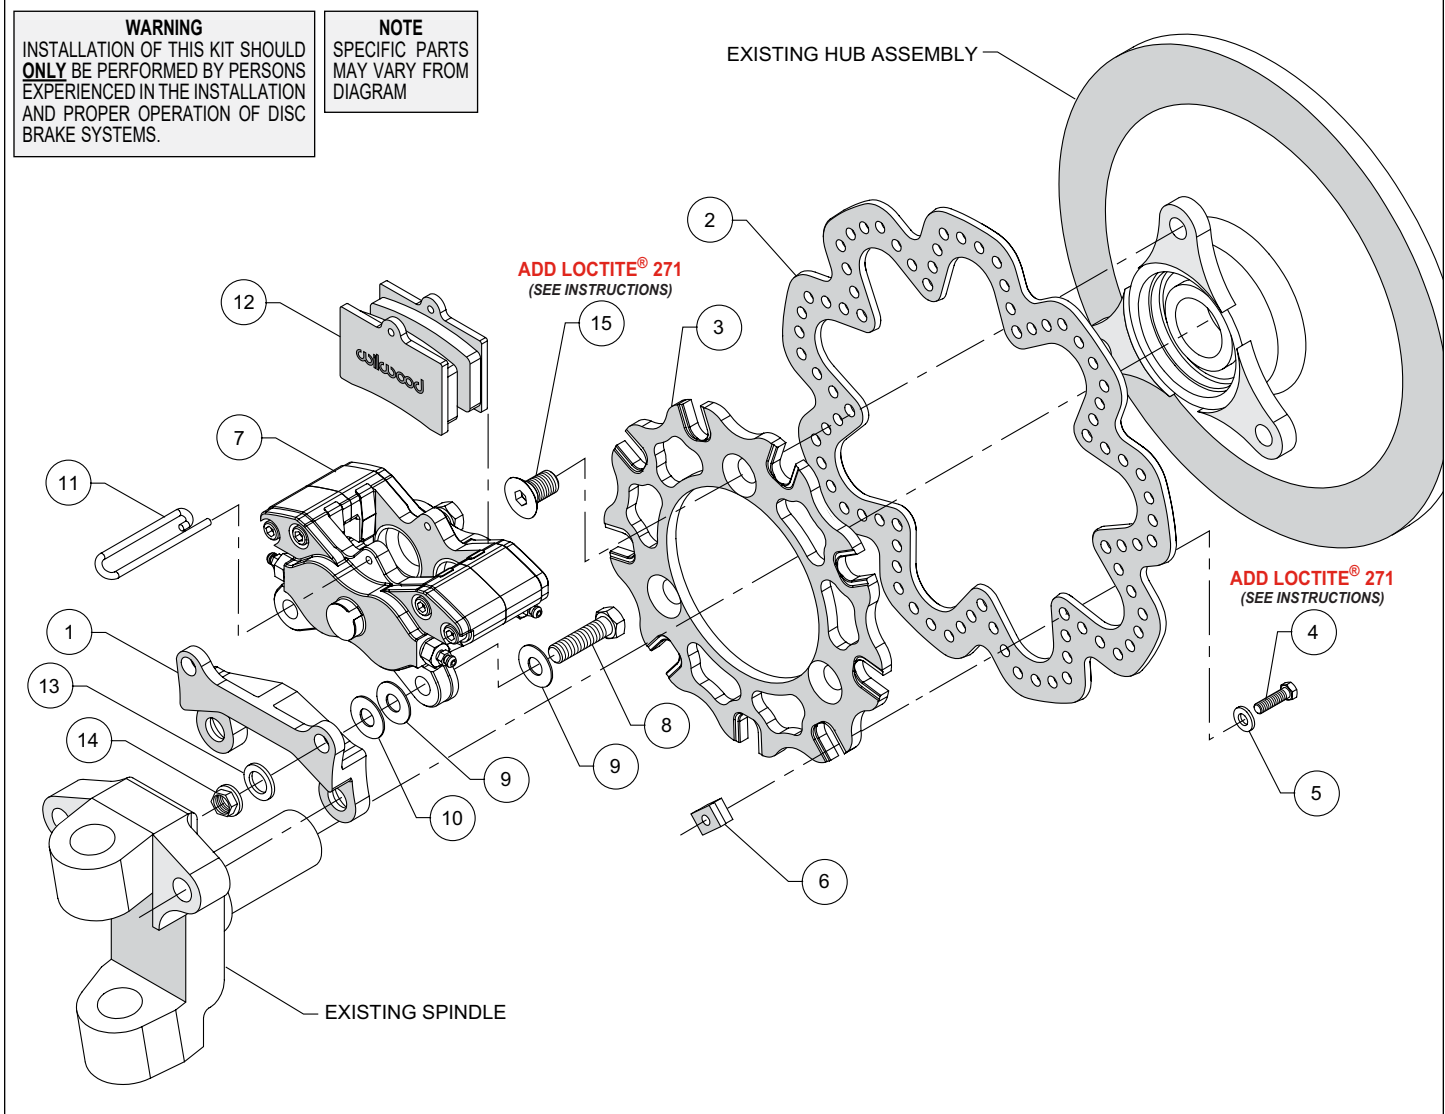

Figure 1. Typical Installation Configuration
NOTE: Numbers in parenthesis refer to the parts list and Figure 1 on the preceding pages. **CAUTION:** All mounting bolts must fully engage threaded holes.
- Orient the caliper mounting bracket assembly (1), as shown in Figure 1, and install using customer furnished hardware and red *Loctite*[®] 271. The bracket must fit squarely against the side of the spindle body. Inspect for interference from machining ridges, burrs, etc.
- Mount the rotor adapter (3) with the notched t-nut slots facing inboard to the rotor (2) using bolts (4), and washers (5) slid through rotor holes from the outboard side and into the t-nut (6). Apply red *Loctite*[®] 271 to the bolt threads and torque bolts (4) to 120 **in-lb**.
- Slide the rotor/adapter assembly onto the hub assembly and secure using bolts (15) as shown in Figure 1. Apply red *Loctite*[®] 271 to the bolt threads (15) and torque to 80 ft-lb.
- Orient the caliper (7), as shown in Figure 1, and install on bracket using bolts (8), .035" shim washers (9), .063" washers (13), and locknuts (14), Figure 1. Initially place one .035" shim washer (9) between the caliper (7) and bracket (1). Temporarily tighten locknuts (14) and check that the rotor (2) is centered in the caliper. If not, adjust by adding or subtracting .035" shim washers (9) and/or .016" shims (10) between the bracket and caliper. Always use the same amount of shims on each of the two mounting bolts. Once the caliper alignment is correct, torque locknuts to 30 ft-lb.
- Remove the pad pin retainer (11) from the caliper (7). Slide the brake pads (12) into place. They should install easily without interference. Reinstall the pad pin retainer (11).